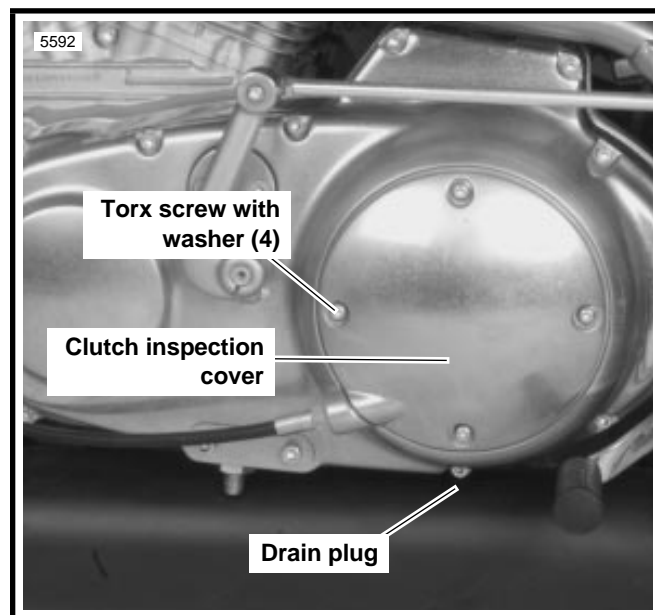

Figure 1-15. Primary Cover
3. See Figure 1-15. Position a suitable container under transmission lubricant drain plug. Remove drain plug and drain lubricant.